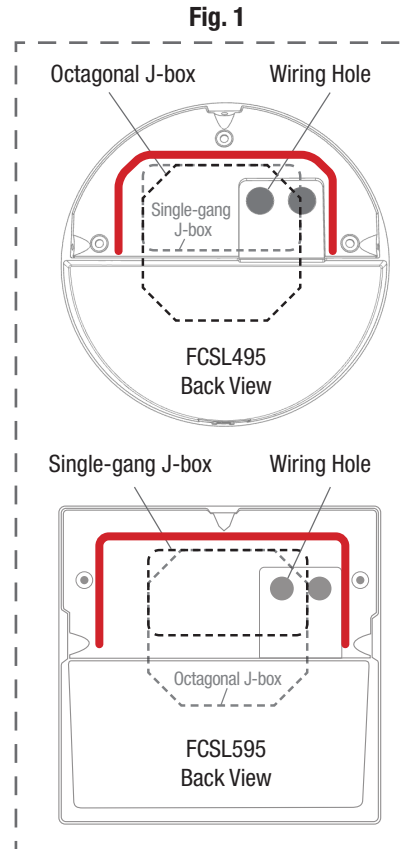

Fig. 5 Continuous Silicone Bead indicated above by solid red line.
5. **Installer MUST add a continuous bead of silicone caulk on the back of the Mounting Plate, as indicated, to avoid any water entering into the J-box from above.** **Fig. 5**
7. Install Housing onto Mounting Plate using provided Hex Screws. Tighten screws evenly and avoid over tightening. **Fig. 5**